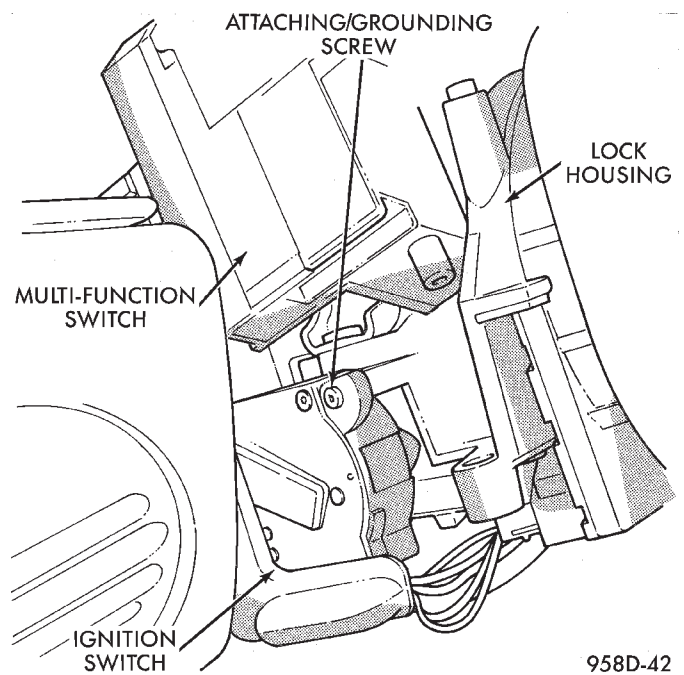
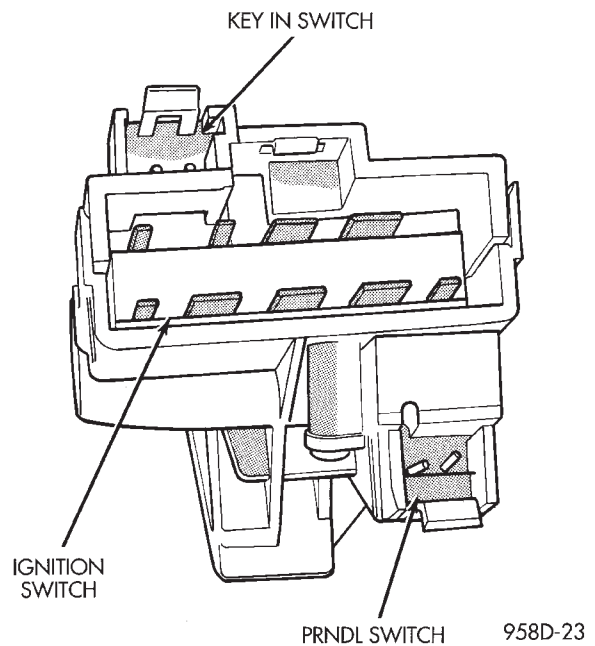
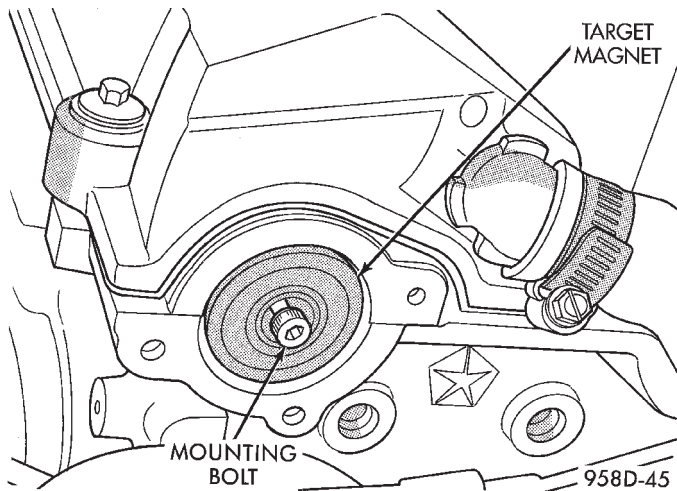

Fig. 63 Ignition Switch
Fig. 64 Ignition Switch Connectors
Fig. 65 Ignition Switch Installation
(13) Disconnect electrical connectors from ignition switch (Fig. 63) and (Fig. 64).
(14) Remove ignition switch mounting screw (Fig. 63) with a #10 Torx® tamper proof bit.
- (1) Ensure the ignition switch is in the RUN position and the actuator shaft in the lock housing is in the RUN position.
- (2) Carefully install the ignition switch. The switch will snap over the retaining tabs (Fig. 65). Install mounting screw (Fig. 63).
- (3) Install electrical connectors to ignition switch.
- (4) Install upper and lower shrouds.
- (5) Install key cylinder (cylinder retaining tab will depress only in the RUN position).
- (6) Connect negative cable to battery.